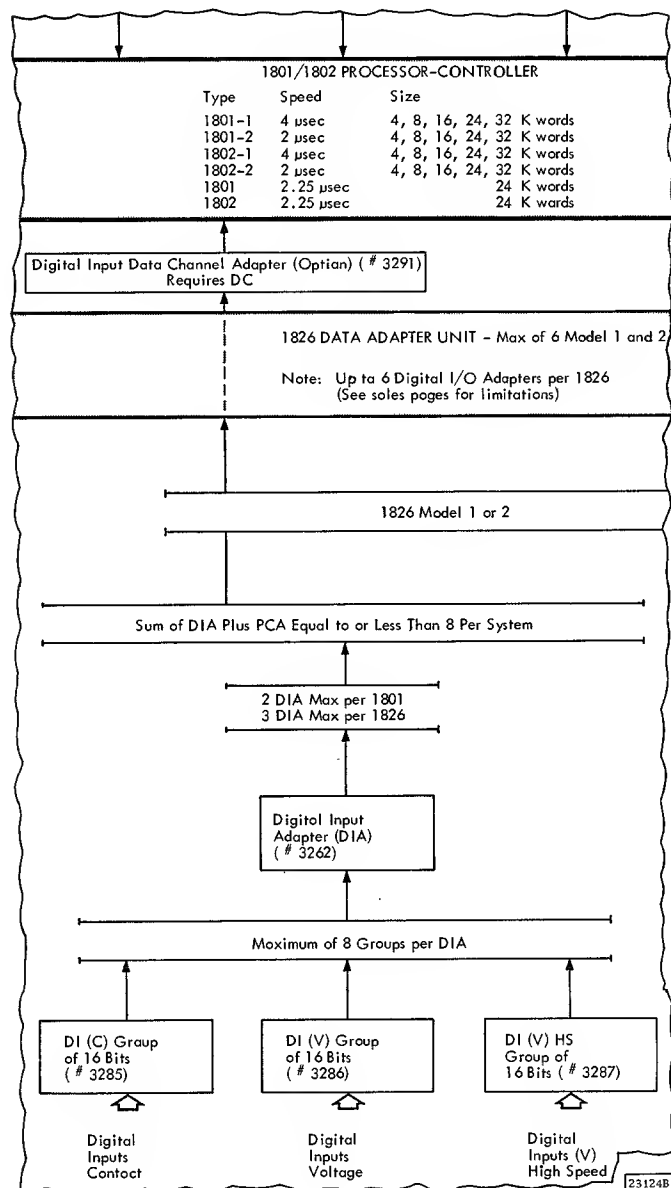

Figure 4. Finding Prerequisites for Digital Inputs Using Configurator
The IBM 1800 Configurator is designed to assist the user in determining the prerequisites, capacities, and options of the 1800 system. The data processing I/O features are at the top of the page; process I/O features appear at the bottom of the page. To use the configurator, first determine which feature is desired, then follow the arrows to the processor-controller. For example, let us assume that the digital input feature is desired. Figure 4 is an example of the configurator layout and illustrates the path to be followed for determining the prerequisites for digital inputs (Voltage).
Beginning at the bottom of Figure 4, we find that each DI (V) group is obtained by ordering one #3286, or #3287 if the group is to be high speed. Next, specify one Digital Input Adapter (DIA) #3262 for up to 8 groups of digital inputs. Over 8 groups of digital input require additional adapters (#3262). The next two steps indicate the unit and system capacity for digital input adapters. The dash line through the 1826 indicates that the DIA(s) can be installed in these units or in the 1801.